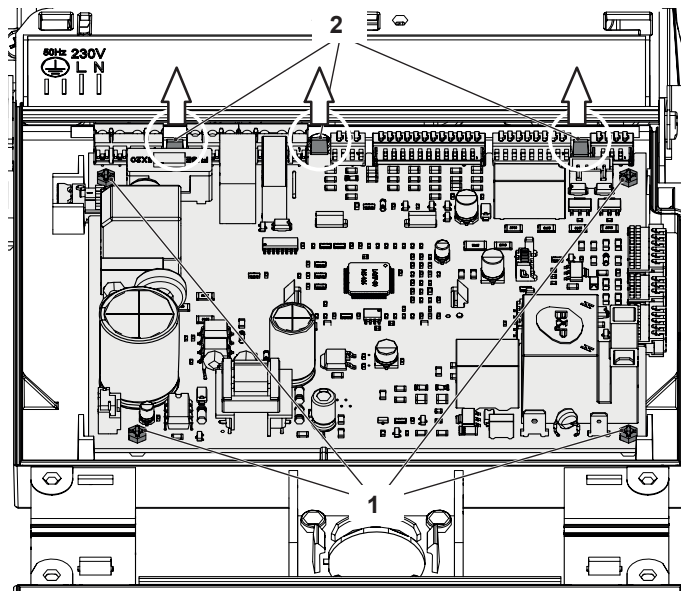

Figure 7.10
- 3 Unscrew the screws "1" (Figure 7.10).
- 4 Delicately flex the hooks "2" in the directions indicated (Figure 7.10) in order to release the circuit from the box.